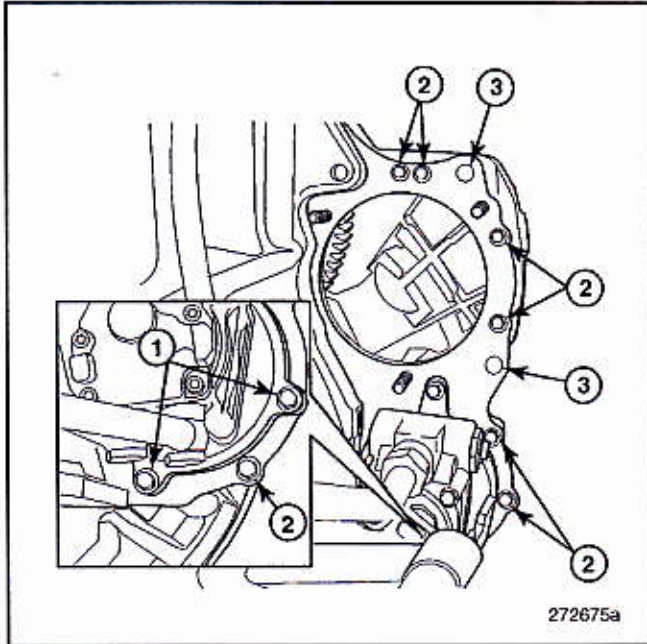

Figure 291 — Timing Gear Plate Attachment
7. Install the timing gear plate to the flywheel housing bolts (item 2 in Figure 291).